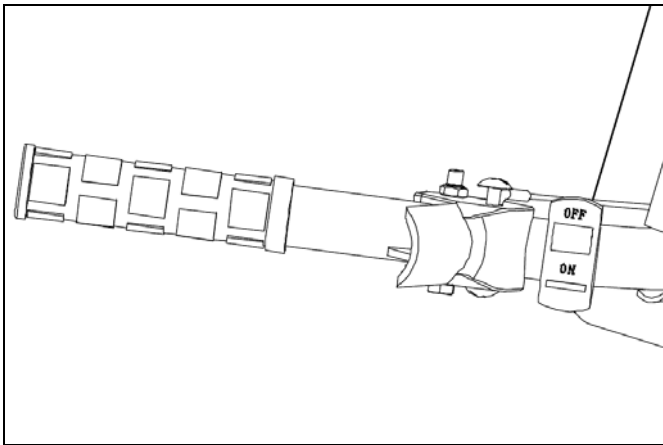

Fig.23
4. Move the switch-on to the "ON" position. (Fig.23)